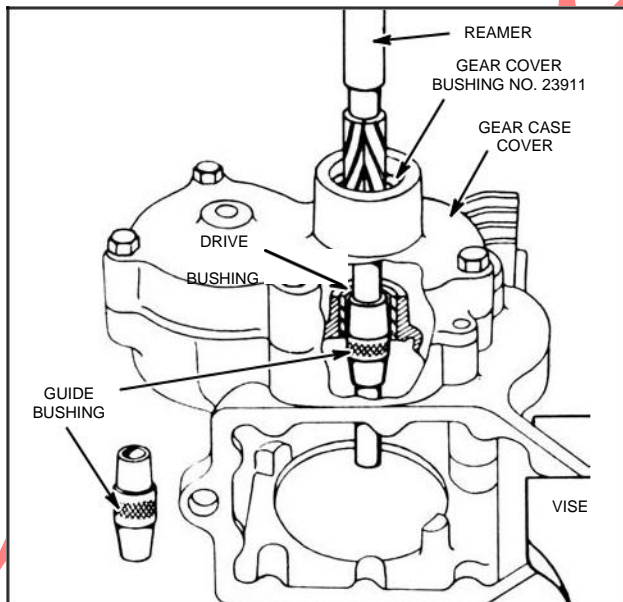

Fig. 117 - INSERTING GUIDE BUSHING
5. Insert reamer as shown in Fig. 117. Ream to .750"-.7515". Continue to turn reamer to right while removing it from bushing.